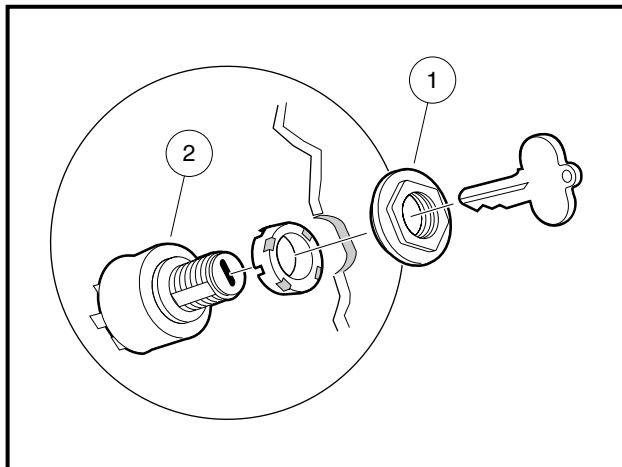

Figure 12a-20 Key Switch Removal
- 6.1. Remove the key switch nut (1) (**Figure 12a-20, Page 12a-17**).